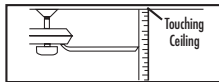
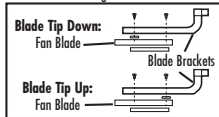

Figure 1
Figure 2
4. Most fan wobble problems are caused when blade levels are unequal. Check this level by selecting a point on the ceiling above the tip of one of the blades. Measure this distance as shown in Figure 1. Keeping measure within 3mm, rotate the fan until the next blade is positioned for measurement. Repeat for each blade. If all blade levels are not equal, you can adjust blade levels by the following procedure. To adjust a blade tip up, insert a washer (not supplied) between the blade and blade holder at the two screws farthest from the motor (Figure 2). To adjust a blade tip down, insert washer (not supplied) between the blade and blade holder at the two screws farthest from the motor (Figure 2).